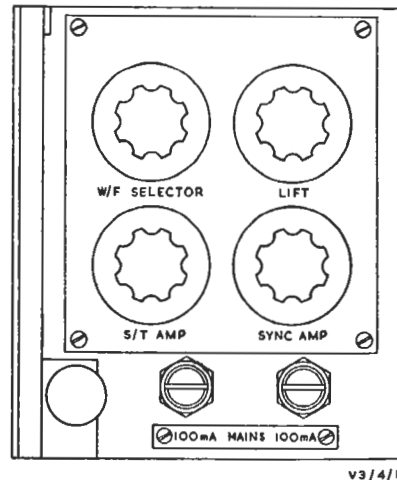

Fig. 1.1. GE4/506: Main Controls
1. Sawtooth; variable from 0.5 volt to 0.9 volt p-p at the output by means of a front-panel control (Fig. 1.1).